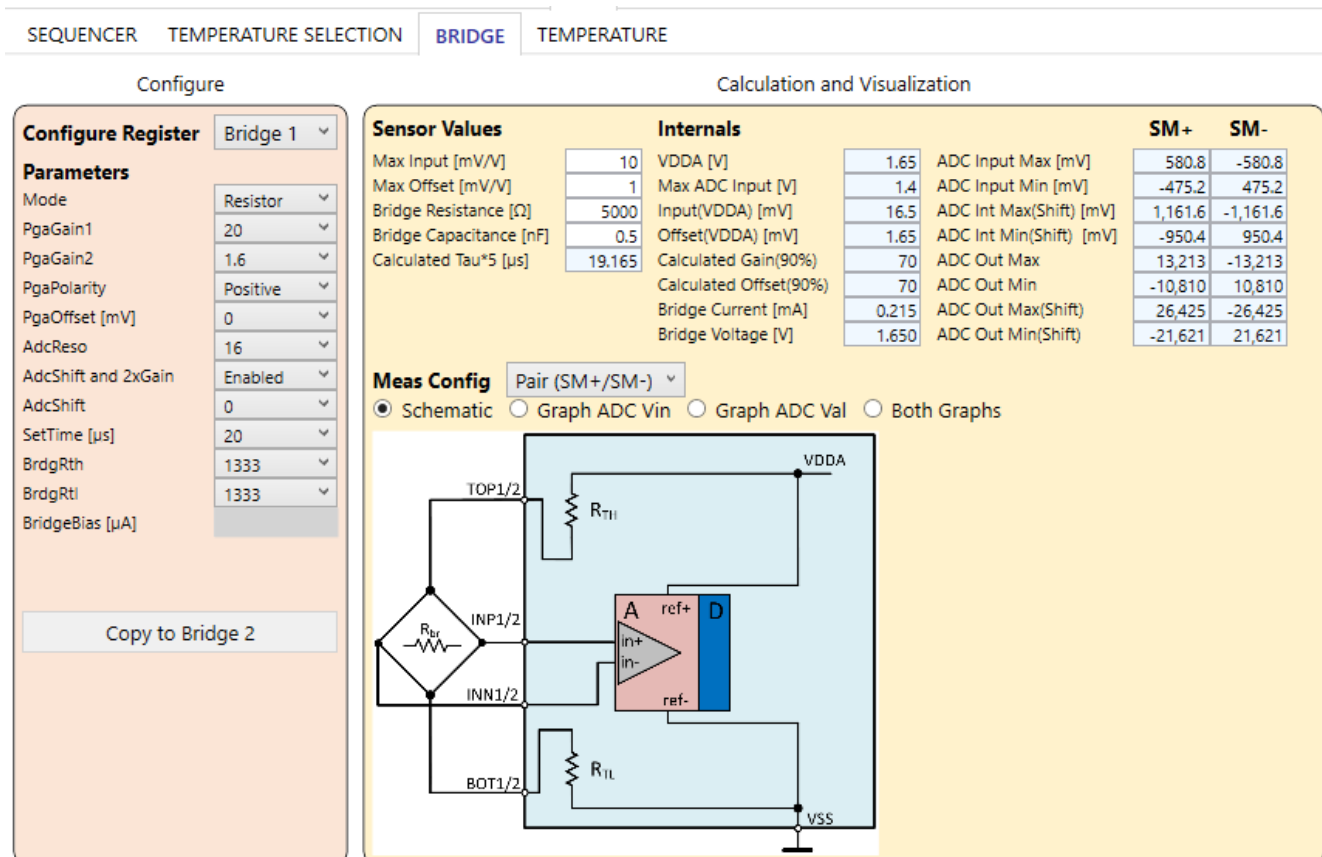

Figure 65. Resistor Mode
- Resistor: internal voltage supply (VDDA, refer to *ZSSC3281 Datasheet* document) with configurable internal series resistors, see Figure 65.